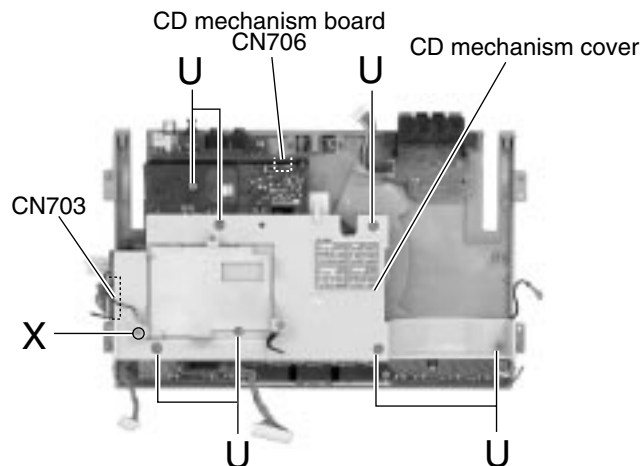

Fig.34
3. Unjoint the six joints (f) with the VCD shield (L) and the VCD shield (U). Remove the VCD shield (L) in the direction of the arrow.
4. Remove the VCD CB assembly from the VCD shield (L).
■ Removing the CD mechanism board / mechanism assembly (See Fig.34 to 38)